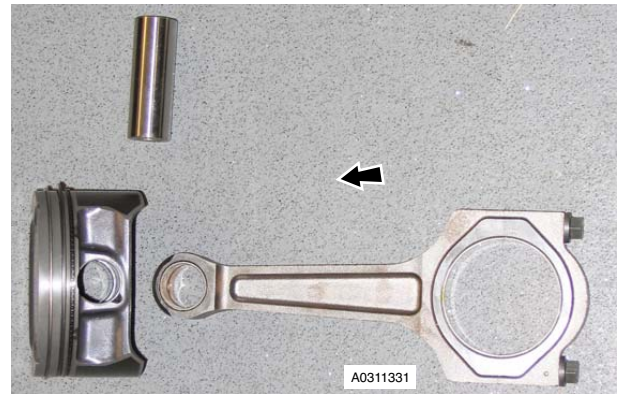

Figure 18
35. Remove circlip(s) securing gudgeon pin(s) in piston(s) and connecting rod(s). Remove piston(s) (see Figure 18).